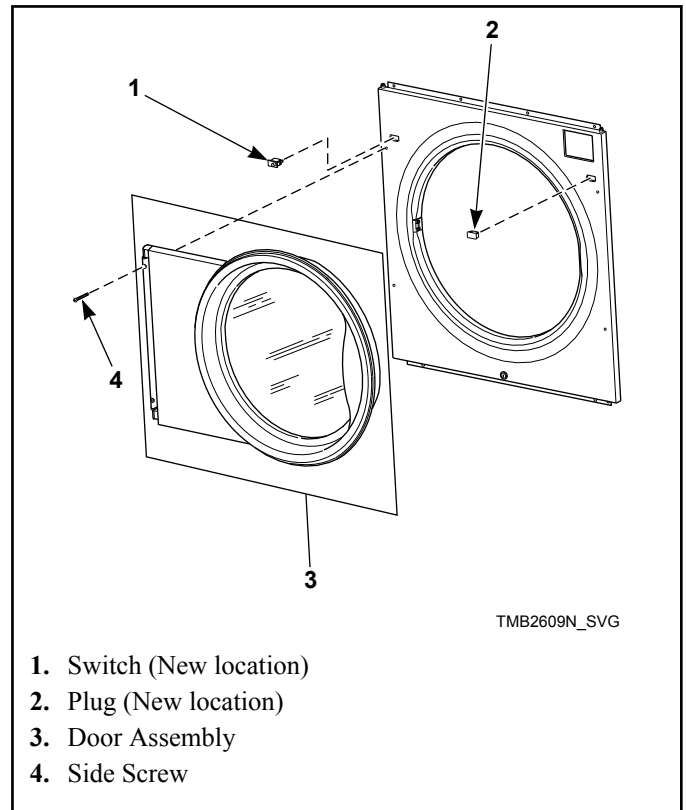

Figure 11
9. Place front panel on machine, loosely attach four bottom screws. Connect door switch harness to switch in new location. Install door assembly and four front panel side screws loosely. Refer to *Figure 11*.